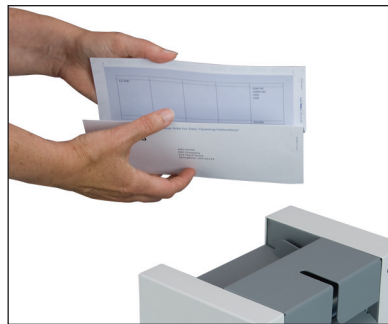

Fig. 1
2. Fold the pressure seal form, ensuring that it's folded correctly and no glue lines are exposed (fig. 1).